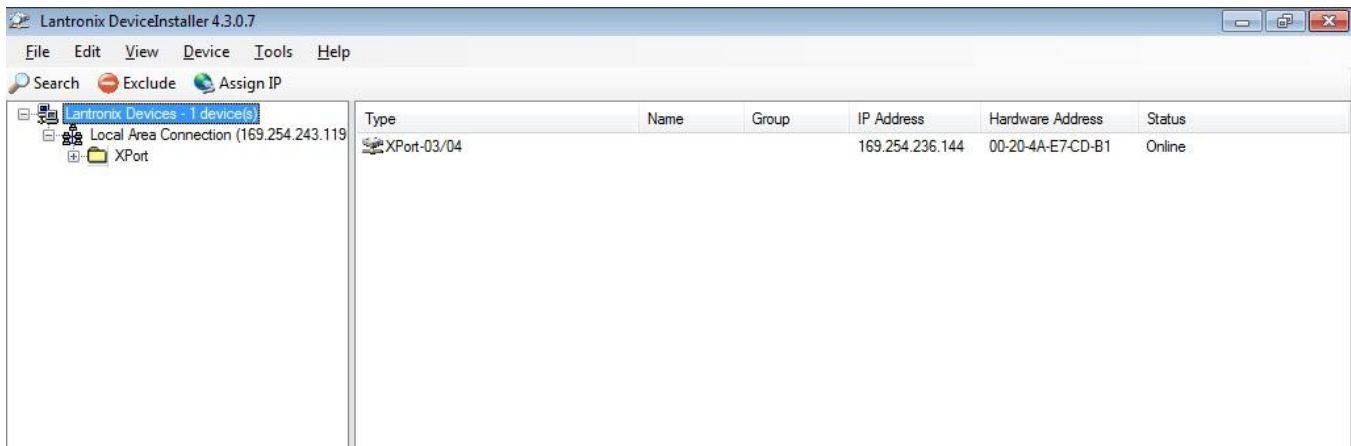

Figure A-20. Set up IP address – Expand the XPort folder
4. Click the **+** sign next to the **XPort** folder on the left side pane to expand it. See Figure A-20 below.